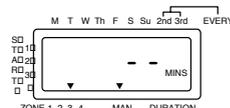

Figure 14
2. Press **NEXT** until indicator is on the station to be watered. (See Figure 14.)